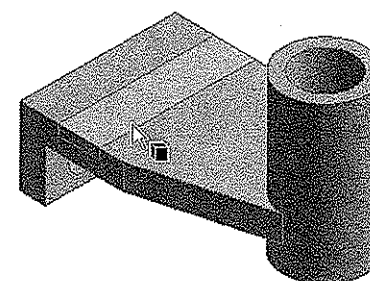

Figure 7-41 Selecting the fill feature
9. Select the fill feature created, refer to Figure 7-41.